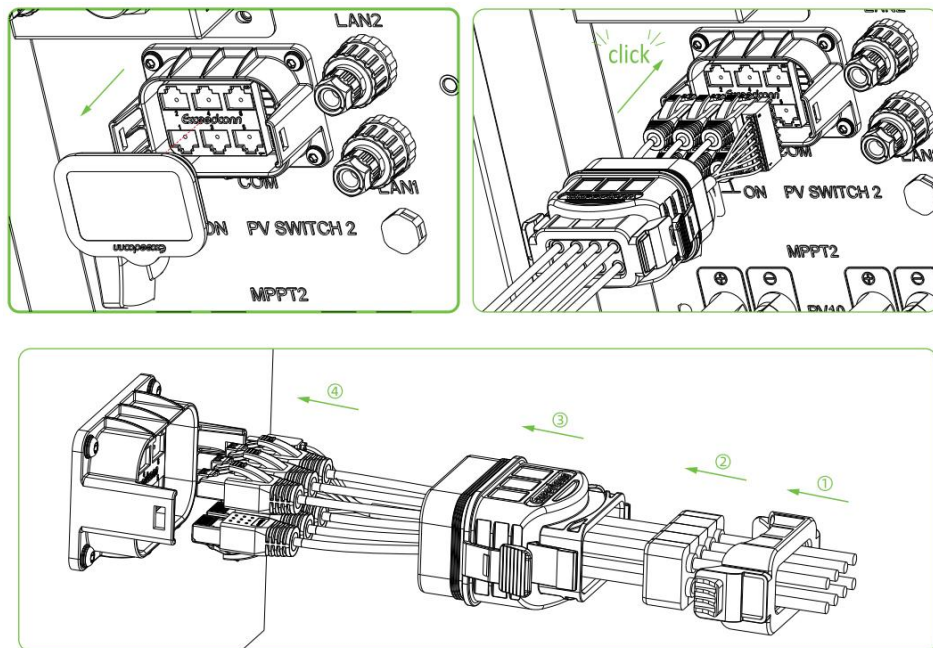

Fig 6.13 RJ45 communication terminal connection steps
- Steps4:** Ensure that the connection is correct and secured, the sealing rubber ring is properly seated into the gland as shown in Figure 6.13.